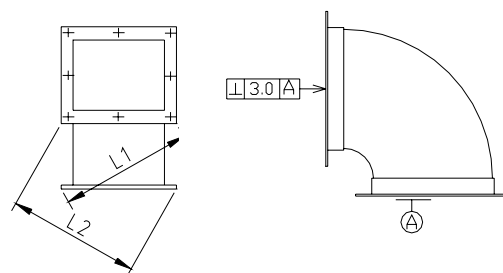

Fig.22 Elbow
11. The verticality tolerance between the flanges at two ends of the elbow of rectangle flange should be 3.0 (90° elbow), the absolute value of difference between diagonal lines should be $|L1-L2| \leq 3$, as shown in fig.22.